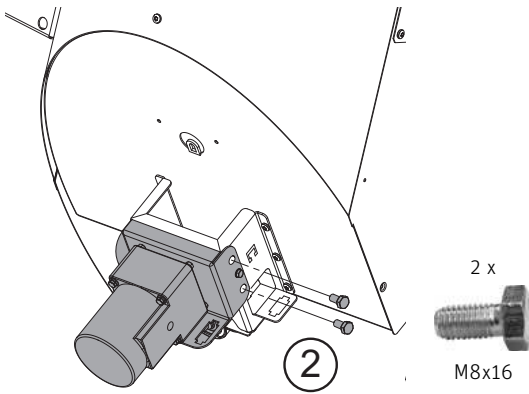

Fig. 50 Screw the auger motor into place
- ▶ Secure the auger motor at the front with 2 M8x16 screws – Fig. 50.